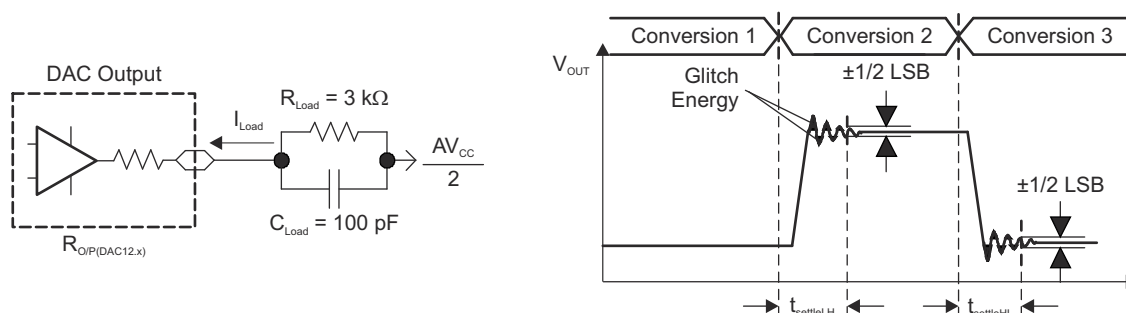
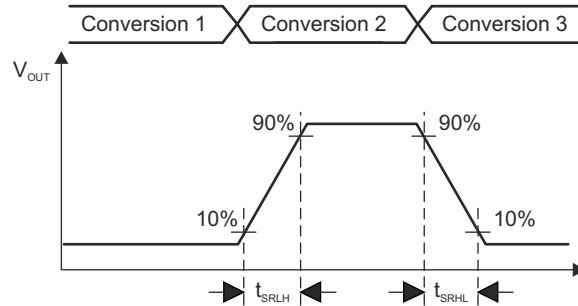

图 8-19. Settling Time and Glitch Energy Testing
图 8-20. Slew Rate Testing
VREF = VCC, DAC12IR = 1 (see Figure 8-19 and Figure 8-20), over recommended ranges of supply voltage and operating free-air temperature (unless otherwise noted)
| t ON DAC12 on time                   | DAC12_xDAT = 800h,Error V(O) < ±0.5 LSB (1)(see <a href="#">Figure 8-19</a> ) | 2.2 V, 3 V      | 60   |     | 120  | μs   |
(1) RLoad and CLoad connected to AVSS (not AVCC/2) in Figure 8-19.
(2) Slew rate applies to output voltage steps ≥ 200 mV.